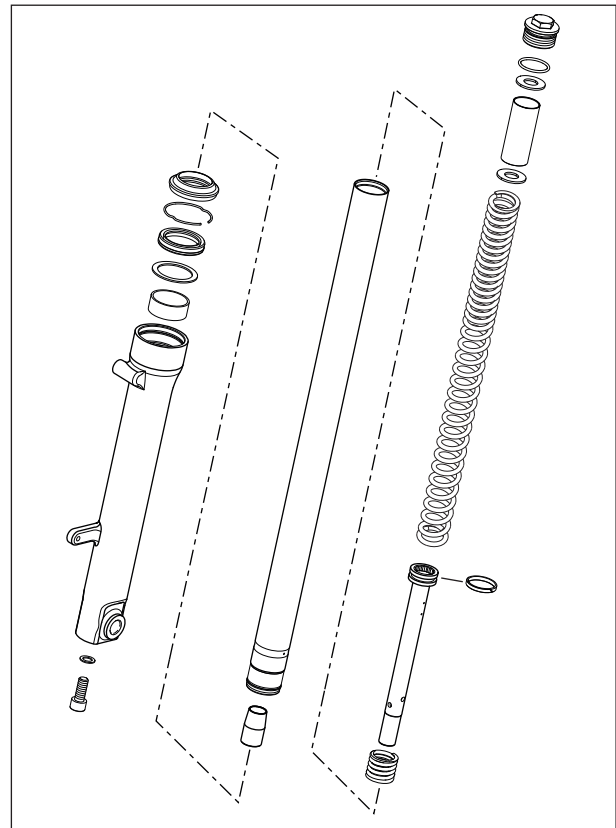

Fig. 6.63
- Refer leg assembly front fork exploded view (Fig. 6.63) for assembly details.